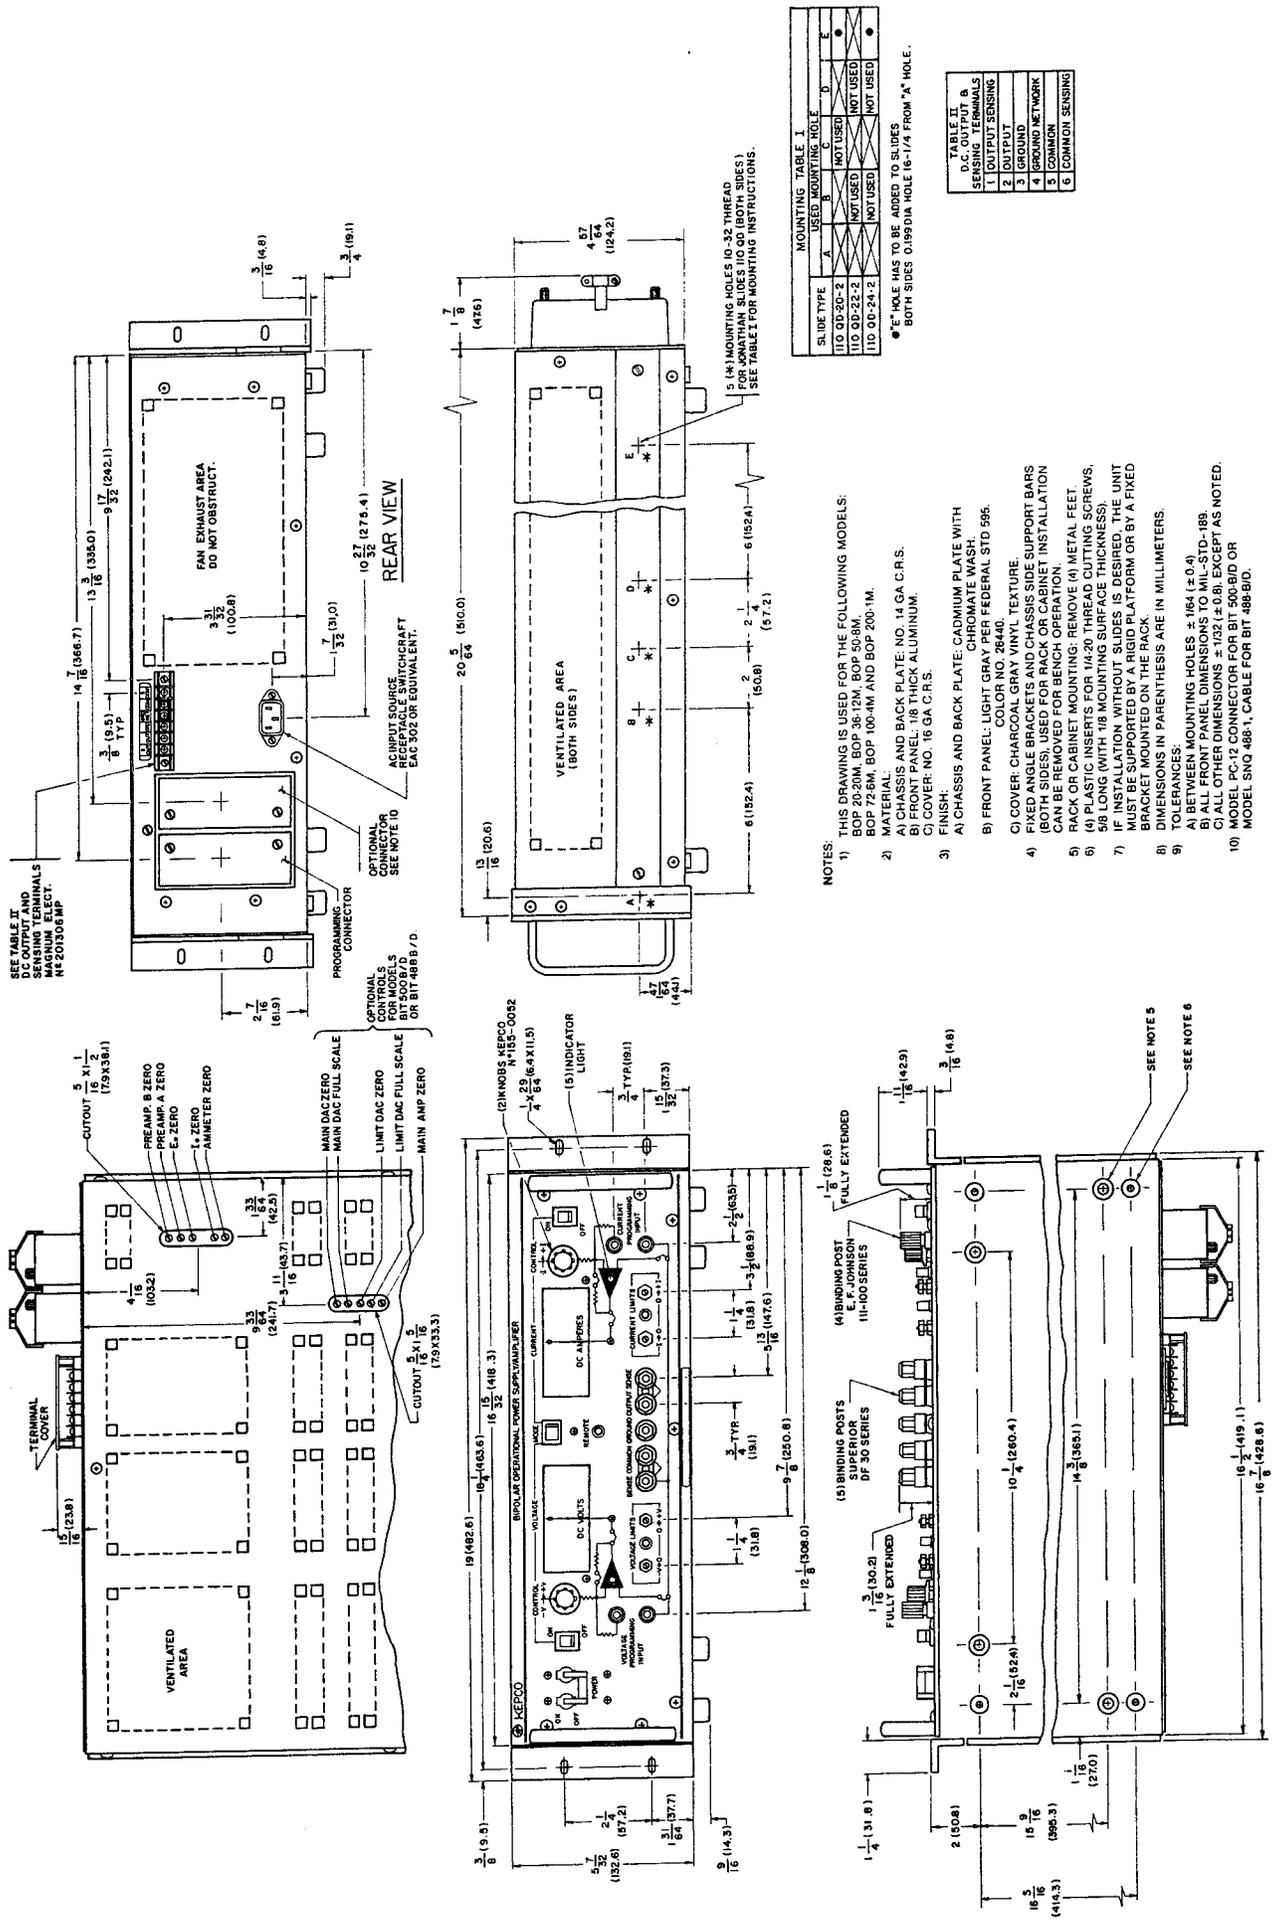

FIG. 1-4 MECHANICAL OUTLINE DRAWING.
- A) **DIMENSIONS:** See "Mechanical Outline Drawing". FIG. 1-4.
- B) **FINISH:** See "Mechanical Outline Drawing". FIG.1-4.
- C) **FRONT PANEL METERS:** Two (2) "zero center" meters, monitoring the \pm d-c output voltage and the \pm d-c output current, are provided; 2½ inches wide, recessed; Accuracy, $\pm 2\%$ full scale.